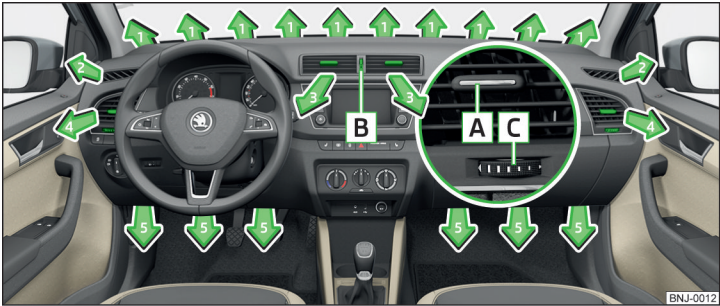

Fig. 101 Air outlet vents
The direction of airflow can be adjusted using the air outlet vents **3** and **4** » Fig. 101 and the outlets can also be opened and closed individually.
- To change the height of the air flow, turn the horizontal fins upward or downward using the movable adjuster **A** » Fig. 101.
- Turn the regulator **B** upwards » Fig. 101.
- Turn the regulator **B** downwards » Fig. 101.
Set the direction of the air outlet	Active air outlet vents » Fig. 101